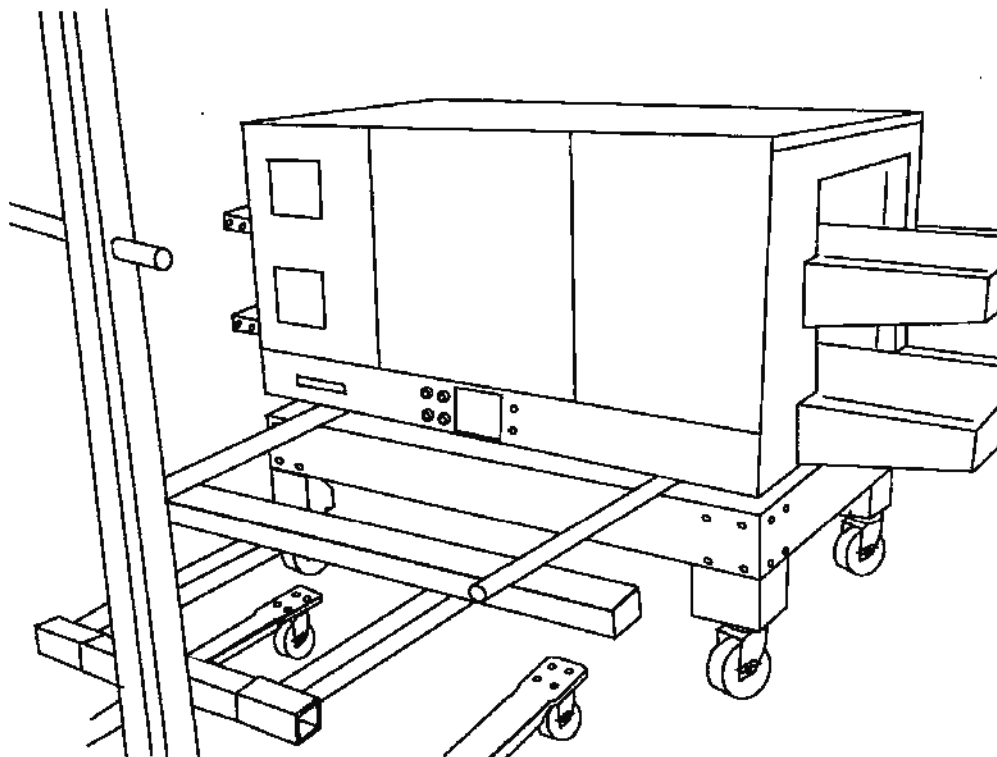

Figure 2-6
7. Carefully lower the oven onto the base assembly. The fit on all sides should be flush. Refer to Figure 2-6.